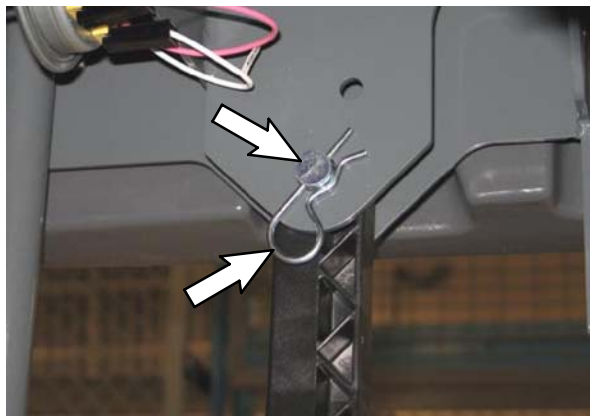

FIG. 8
8. Remove both scrub head lift arms from the frame of the machine. Set the scrub head lift arms aside. Discard the cotter pins and clevis pins removed in this step. Refer to Fig. 8.